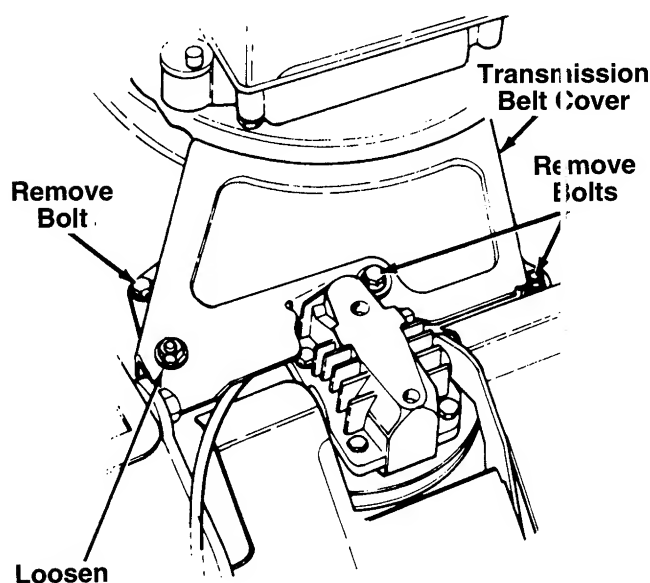

FIGURE 16.
3. Remove the transmission belt cover by removing three bolts. See figure 16.